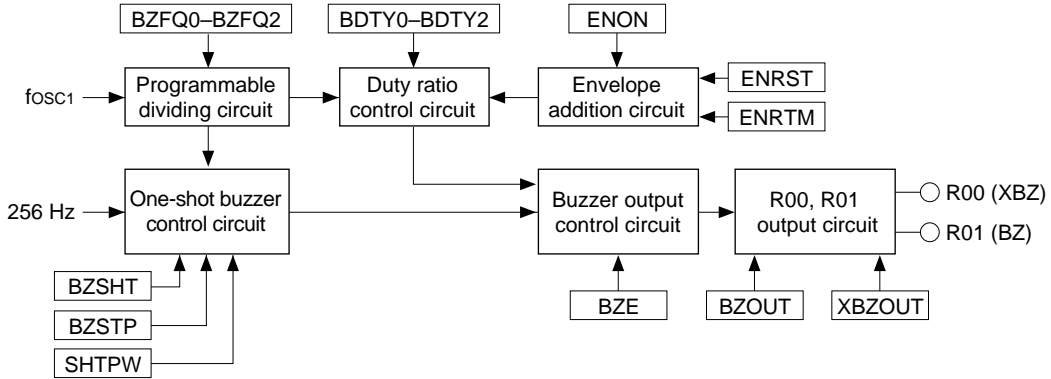

Fig. 4.12.1.1 Configuration of sound generator
The E0C63558 has a built-in sound generator for generating buzzer signals. Hence, generated buzzer signals can be output from the R00 (XBZ) and R01 (BZ) terminals. Aside permitting the respective setting of the buzzer signal frequency and sound level to 8 stages, it permits the adding of a digital envelope by means of duty ratio control. It also has a one-shot output function for outputting key operated sounds. Figure 4.12.1.1 shows the configuration of the sound generator.